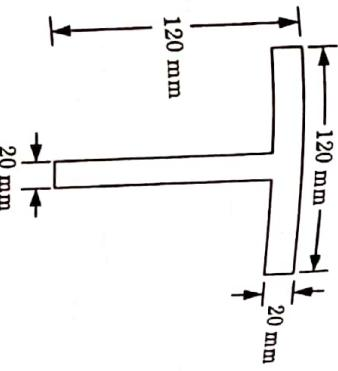

Fig. 3.
- e. Define shape factor and obtain its value for T-section with the following dimension shown in the Fig. 3. If the yield stress is  $250 \text{ N/mm}^2$ . Find  $M_p$ .